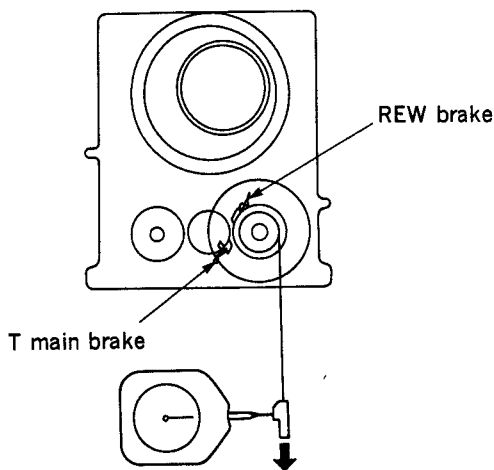

Fig. 1
- (1) Install Tension Measurement Reel on S Reel Table. Hook Dial Tension Gauge at the end of string.
- (2) Pull out the Dial Tension Gauge in the direction of the arrow. Check that these readings meet the required specifications. (Figs. 1 and 2)
- (1) Install the Tension Measurement Reel on T Reel Table. Hook the Dial Tension Gauge at the end of string.